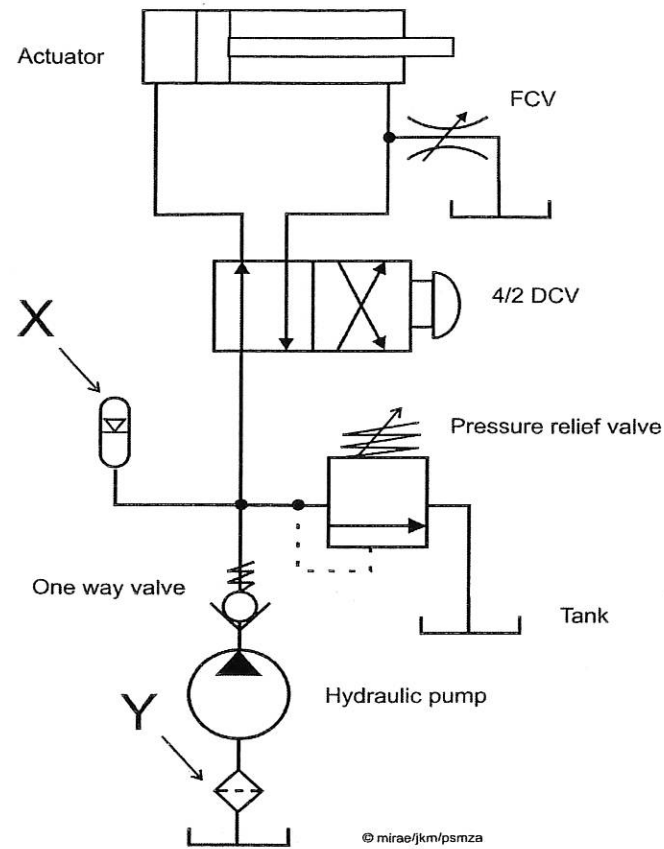

Figure 5: Hydraulic System
- (b) FIGURE 5 above shows circuit for one method of controlling the flow and pressure at the actuator.
- ii. State the method shown in FIGURE 5 (2 marks)